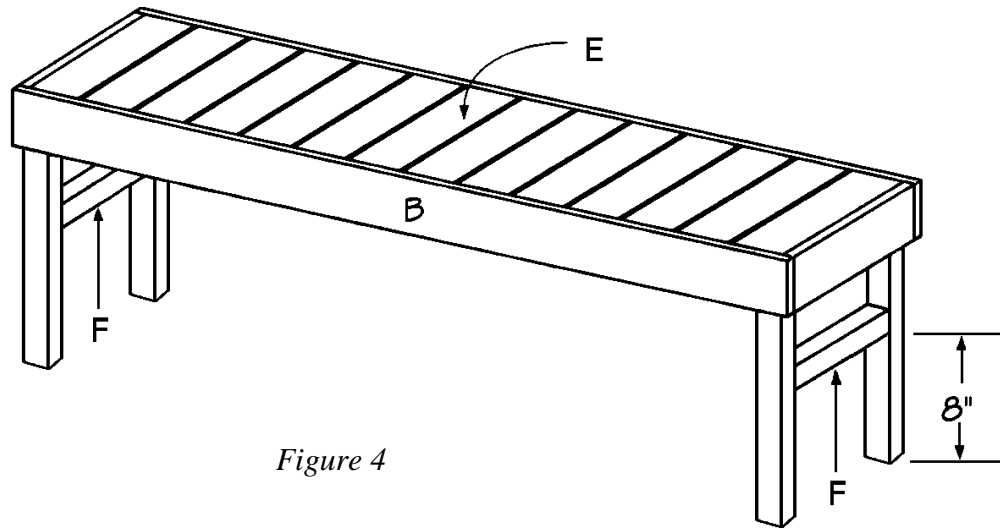

Figure 4
1. Cut 14 slats (E) from 1 x 4 pine, each measuring 14" long.
2. Place the 14 slats (E) over the assembled inner supports, as shown in *Figure 4*. Space them evenly between the short tops (B), leaving a small space between slats. The exact measurement is not critical—just make certain that all the spaces are equal and that the slats are all straight. Nail through the ends of each of the slats into the long inner supports (D) and the legs (C), using two 1-1/4"-long nails on each end.
1. Cut two leg braces (F) from 2 x 2 pine, each measuring 11" long.
2. Attach a leg brace (F) between two of the legs (C), 8 inches from the bottom, as shown in *Figure 4*. Screw through the legs (C) into the ends of the leg braces (F), using two 2-1/2"-long screws on each joint.
3. Repeat Step 2 to attach the other leg brace (F) between the opposite legs (C).